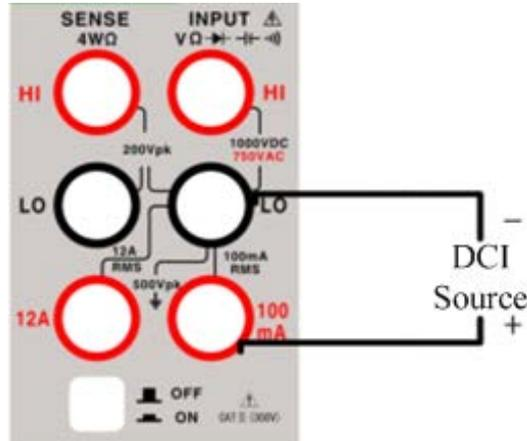

Figure 2.2.2 Method of connecting test terminals for low current
2. Choose different test terminal according to the measurement level. See Fig. 2.2.2